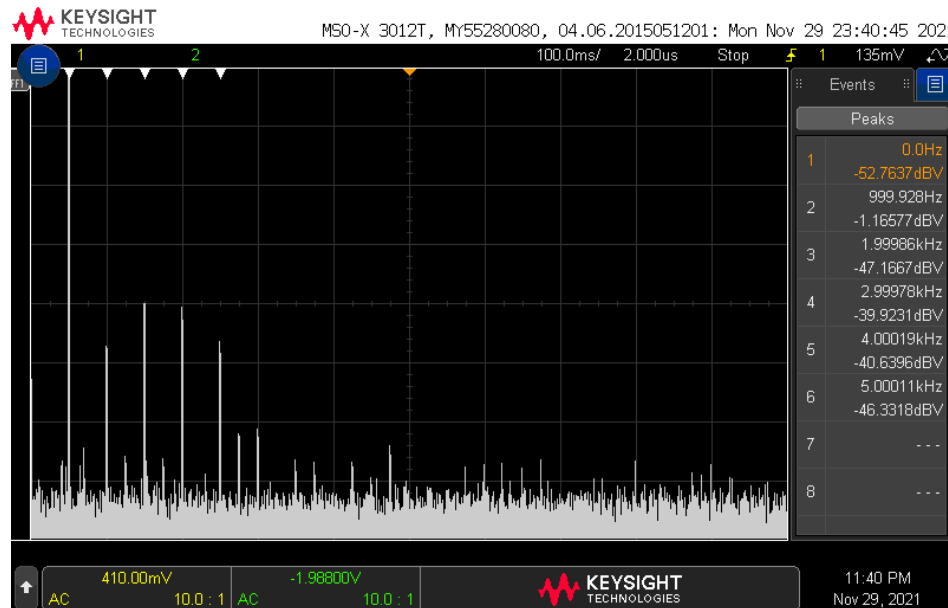

Figure 2: An oscilloscope measuring the FFT of a 1kHz sine wave using the Search function.
Figure 2 shows an example FFT from the Audio board output with a 1kHz sine wave input. I used the Search feature from last week's lab to measure the height of each harmonic shown in the Peaks window on the right side of the screen.
We want to record the harmonics of the input sine wave from Figure 2 as the values in the dB column of Table 1. When you do this you should:
- Ignore any of the Peak frequencies in Figure 2 which are not a close integer multiple of the input frequency.
The values in the dBc column of Table 1 are computed for as the difference in decibels between the harmonic to the carrier. So the dBc value for the second harmonic at 2kHz is -47dB – (-1.2dB) = -46dB (round to 2-significant figures). Using Equation 5 we can convert this into the ratio of powers as $10^{-46/10} = 2.6 \times 10^{-5}$. Use the information in Figure 2 to complete the remaining rows of Table 1.
Table 1: The height of the fundamental and harmonics in Figure 2 transformed into the ratio of power of the individual harmonic to the carrier.
Finally, you need to use Equation 7 to convert the values in the $10^{\text{dBc}/10}$ column to THD. This process is started in the equation below, complete the computation and find the THD for the FFT shown in Figure 2.